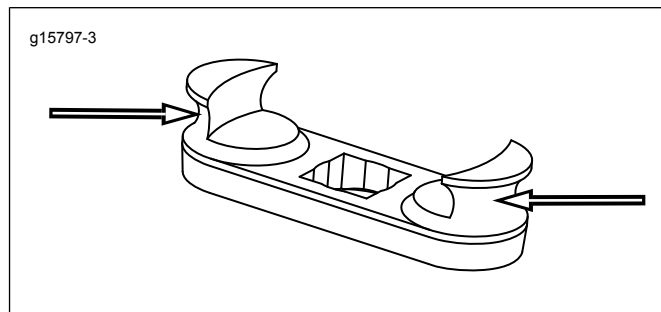
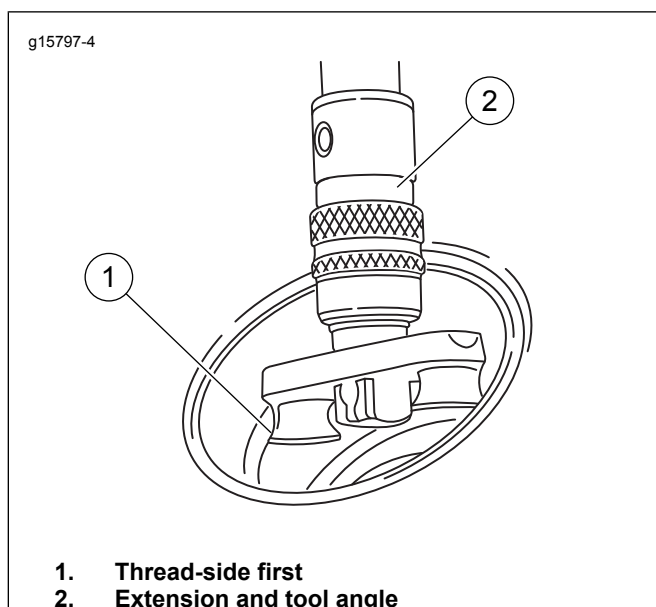

**Figure 2. Vent Hole**
**Figure 3. Thread Area**
4. See Figure 2 and Figure 3. Identify the location of the vent hole in the side of the fuel tank cap area (not threaded). Also identify the threaded area 180 degrees opposite of vent hole.